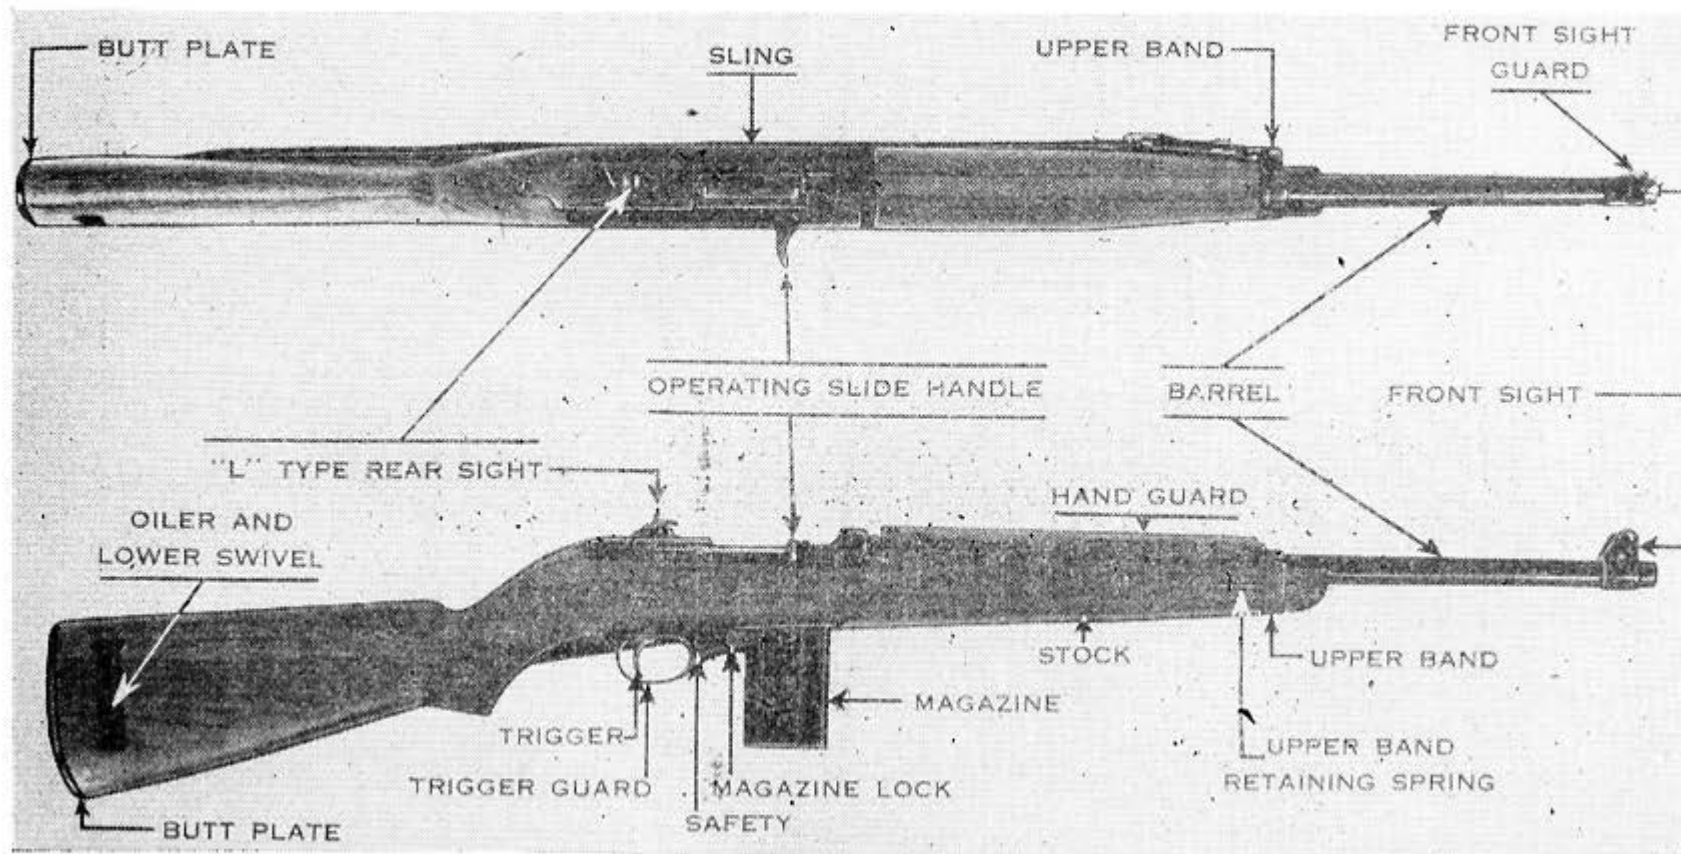

FIGURE 1.—U. S. carbine, caliber .30, M1.
■ 1. DESCRIPTION OF CARBINE.—The U. S. carbine, caliber .30, M1, is a self-loading shoulder weapon (see fig. 1). It is gas operated, magazine fed, and air cooled. It weighs approximately 5 pounds. The weapon is fed from a box type magazine having a capacity of 15 rounds.